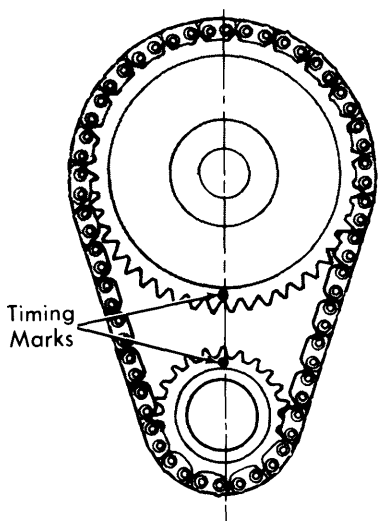

Fig. 8 Timing Chain Sprocket Alignment
2) Crank engine until timing marks are lined up (see Fig. 8) and remove camshaft sprocket cap screw, washer and fuel pump eccentric. Slide timing chain and sprockets forward and remove as an assembly.